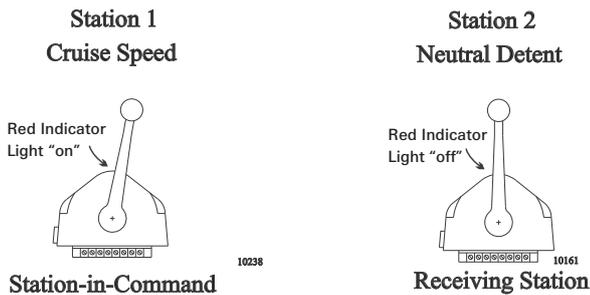

Figure 2-3: Remote Stations Before Transfer of Command
- B Place the Control Head's lever(s) of the receiving Station in the Neutral/Idle detent position (refer to Figure 2-3: Remote Stations Before Transfer of Command)